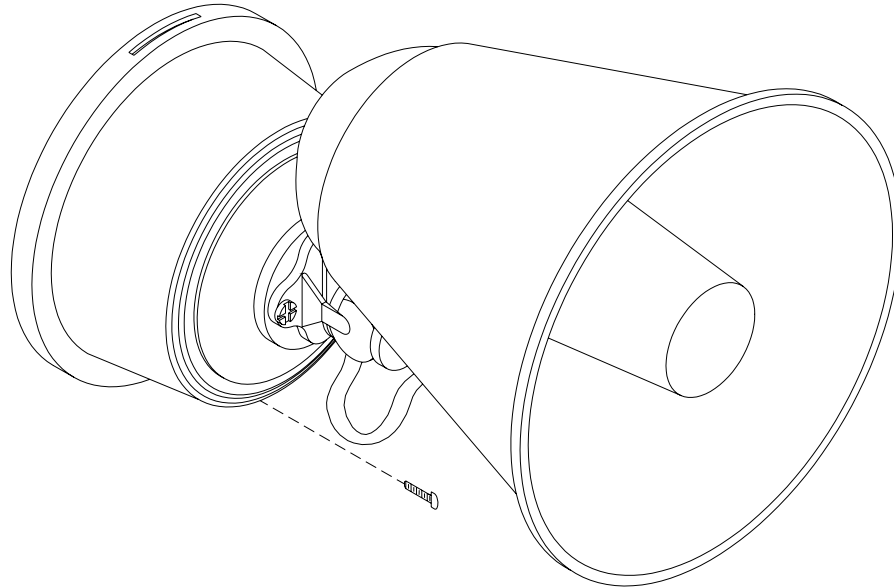

Figure 7 Horn Signal Mounting Plate Screw
11. Remove the horn signal mounting plate from the horn base by loosening the Phillips head screw on the base as seen in figure 7.